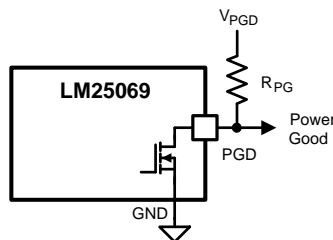

**Figure 33. UVLO = POR with Shutdown/Restart Control**
**Option C:** The minimum UVLO level is obtained by connecting the UVLO pin to VIN as shown in Figure 33. Q1 is switched on when the VIN voltage reaches the POR threshold ( $\approx 2.6V$ ). The OVLO thresholds are set using R3, R4. Their values are calculated using the procedure in Option B.